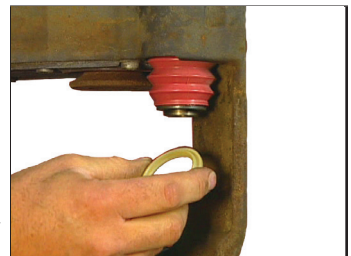

Figure 84 – Place the Retaining Ring onto the Groove in the Guide Pin
5.6.35 See Figure 84. To install the guide pins, first lubricate both guide pins with the white grease supplied. Insert the guide pins into their respective bores with the grooved end towards the bellows.